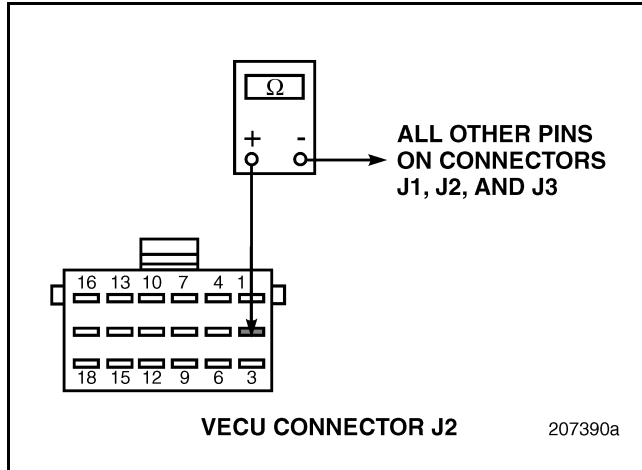

Figure 235
4. Check for continuity between Vehicle Electronic Control Unit (VECU) connector J2 pin 2 and all other pins in connectors J1, J2, and J3 (see Figure 235).